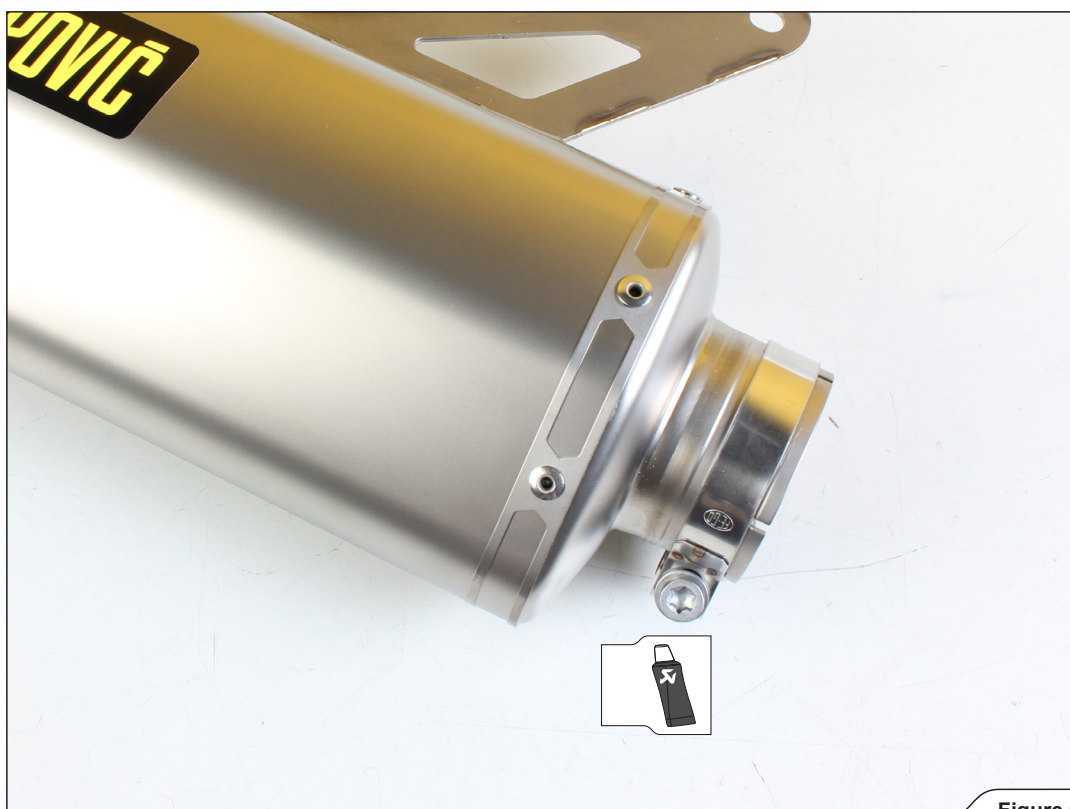

Figure 6
2. Assemble the clamp from Akrapovič installation kit onto the muffler's inlet, as shown (Figure 6).